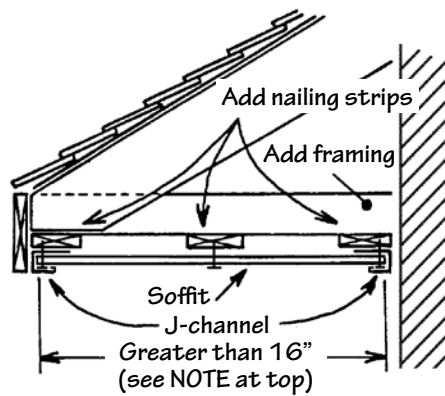

Figure 67.
**NOTE:** Nailing strips must be installed as shown in Fig. 67 if the eave span is greater than 16" (406mm), unless otherwise specified in the soffit manufacturer's instructions. In areas with high wind restrictions, nailing should not exceed 12" (305mm) on center, unless otherwise specified by the manufacturer.
3. In situations with two channels, (Fig. 67), flex the panel between the two channels in-installed. It is critical in this application that the installed nailing strips are wide enough (4" [102mm]) to allow a fastener to attach to the soffit. Make sure the panel is perpendicular to the wall when fastening.